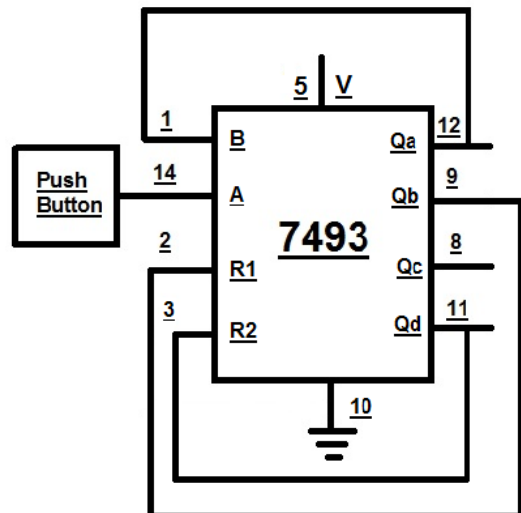

Figure 4. BCD Counter
2. Connect the IC type 7493 as shown in Fig.4 Pin 14 is connected to PB1.